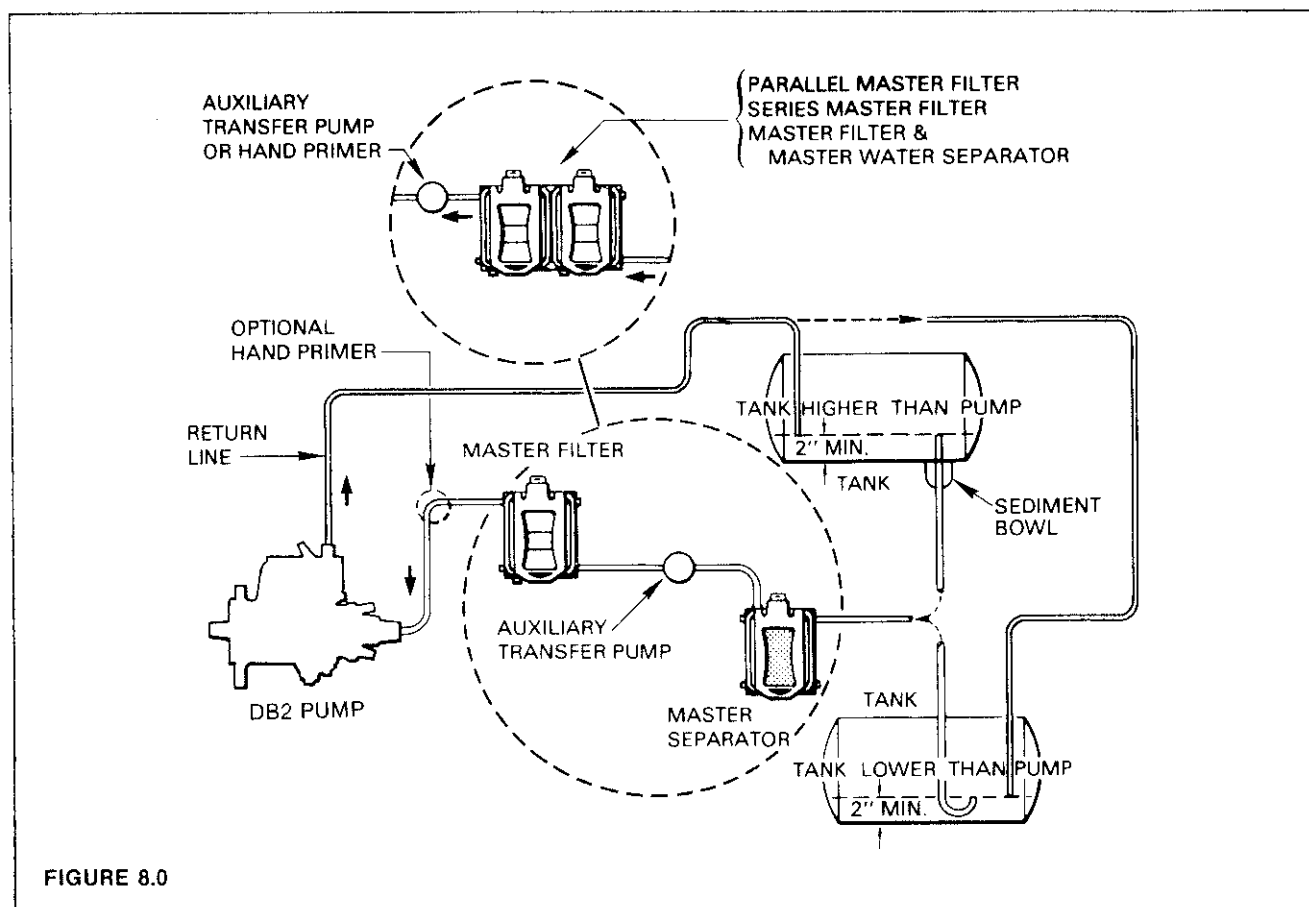

FIGURE 8.0
standpipe is made as shown in Figure 8.0, it greatly reduces the possibility of air entering when fuel, at low level, is agitated in the tank.
1. A pleated paper type filter with large area and minimum pressure drop capable of filtering out 75 - 80% of five micron particles should be used. The Master Filter is recommended since it provides sufficient area for long life and two stage filtration for maximum protection (Figure 8.0).
2. Where water in the fuel is known to be a problem, the Master Separator is recommended (Figure 8.0).
Marine and industrial engines may require a different piping arrangement to suit application peculiarities and performance demands. Generator sets, for example, are particularly sensitive to air and usually require a separate electrically or mechanically driven auxiliary supply pump to deliver fuel, at low pressure, to the unit day tank. This places a positive head of fuel at the transfer pump and virtually eliminates entrance of air to the system (Figure 8.0).
Farm and industrial tractors usually have the tank mounted above the engine and the piping arrangement is generally as shown in Figure 8.0.